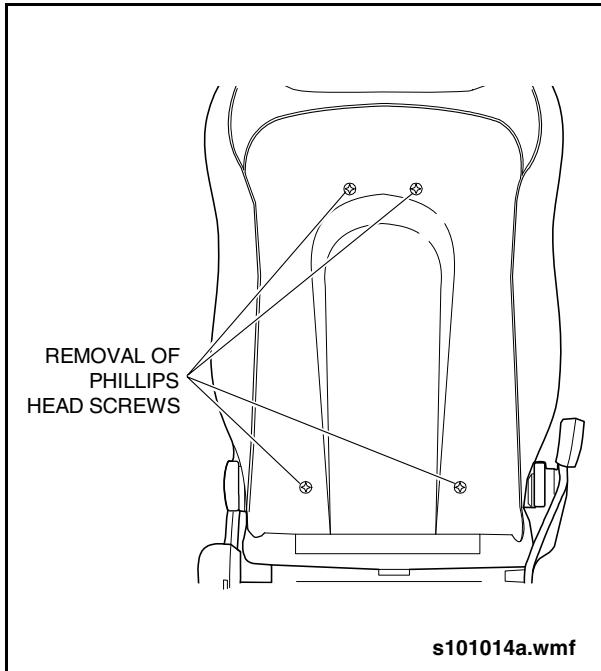

Fig. 17-4: Seat Back Cover
1. To remove the seat back cover, remove the four Phillips head screws retaining the back panel. Remove rear trim molding and tilt the seat back fully forward. Tilt the back panel away from the seat and slide it out of the grooved retainer which attaches it to the seat back cover. See "Fig. 17-4: Seat Back Cover" on page 6.